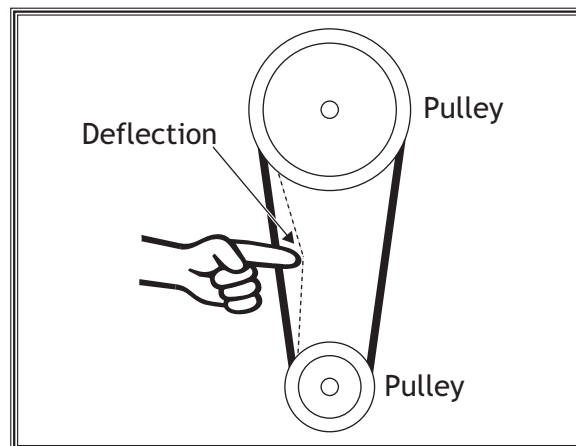

Figure 51. Checking V-belt tension.
4. To tension the V-belt, slide the motor away from the spindle until the V-belt is snug, then tighten the bolts. The amount of V-belt deflection between the pulley should be approximately $\frac{1}{4}$ " when moderate pressure is applied, as illustrated in **Figure 51**.